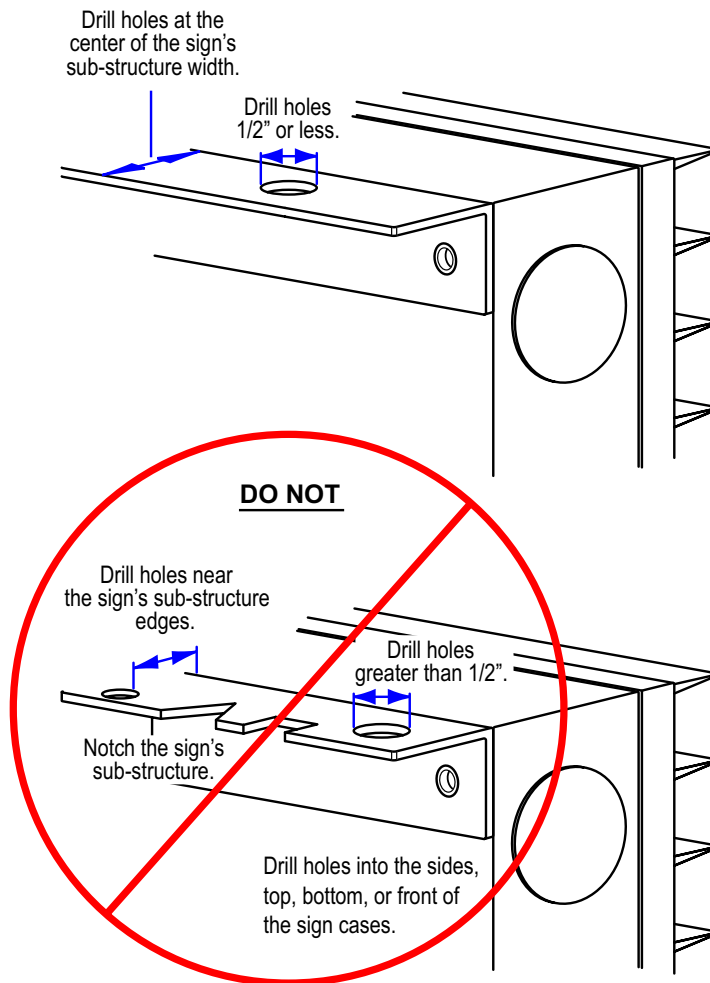

Figure 19. Drilling guidelines
- **DO NOT** modify the sign or sign’s sub–structure for ventilation purposes (see Figure 19 on page 27). The super–structure design **MUST** incorporate adequate ventilation.